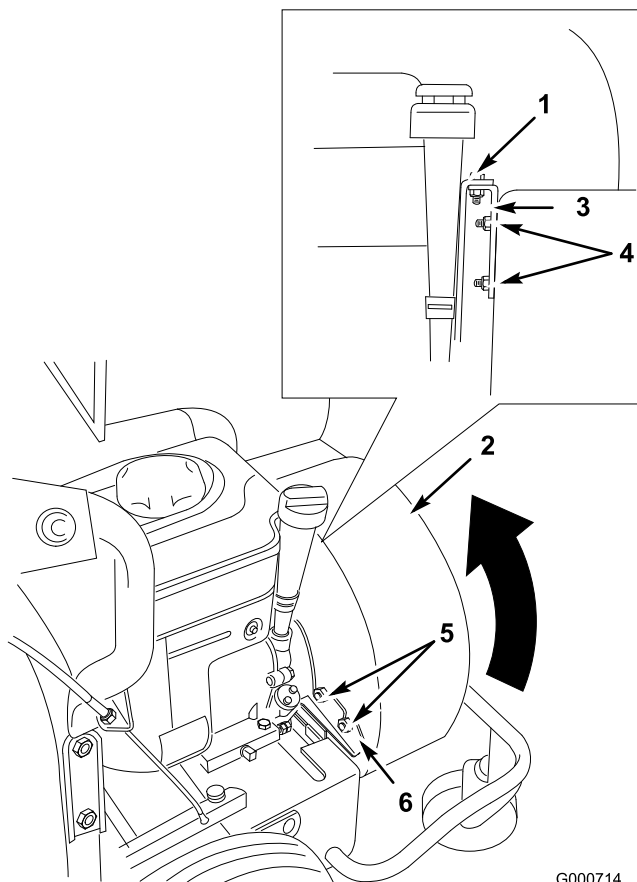

Figure 22
- Remove bolt securing blower housing to engine bracket (Figure 22).
- Remove the 2 locknuts securing housing to engine bracket and remove the bracket (Figure 22).
- Remove the 2 locknuts securing housing to stabilizer bracket (Figure 22).